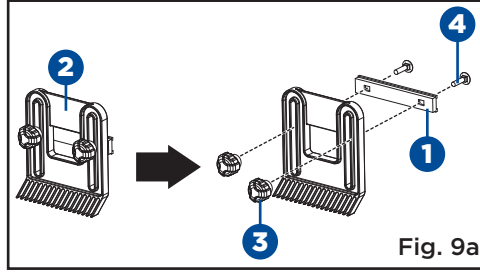

Fig. 9a
**ATTACHING THE FEATHERBOARDS (Fig. 9a-9c)**
**FENCE FEATHERBOARD (Fig. 9a-9b)**
- Remove the slide bar (1) from the top featherboard (2), then reattach the lock knobs (3) and bolts (4) to top featherboard (2). Do not tighten the lock knobs (3).
- Loosen but do not remove the lock knobs (3) from the bolts (4) on the fence featherboard (5).
- Insert the featherboard bolts (4) through the slots in the fence assembly (6), making sure the bolt head are snapped into the slot and slide freely.
- Tighten the fence lock knobs (3) to secure the featherboard to the fence.